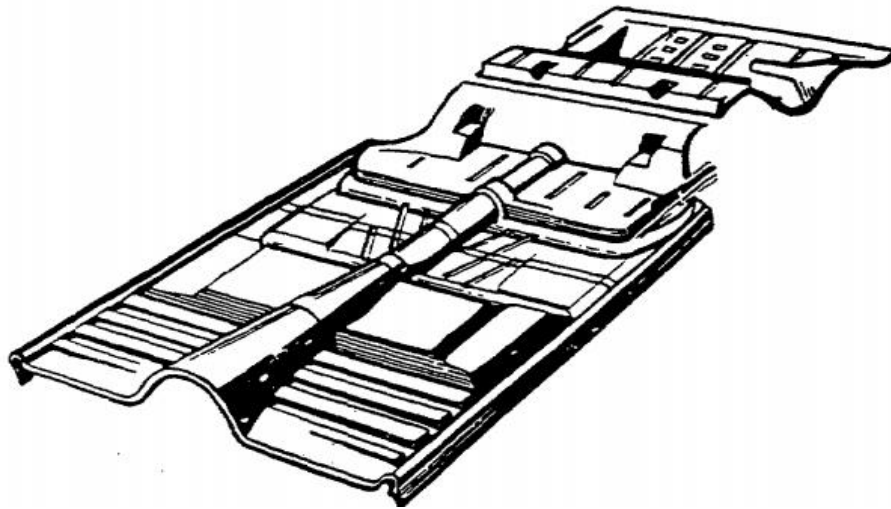

Figure 7: Floor Pan Assembly
- IV. **Floor Pan Assembly:** The floor pan(refers to a floor-related component) is composed of several smaller panels that are welded together or secured to one another by bolts to form one single unit, as shown in figure 7. Most floor pans are irregularly shaped. They are indented or formed into bends to give strength to the entire floor structure.